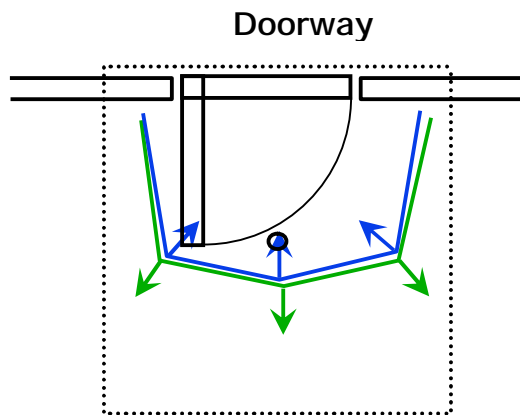

Figure 10.2
- Customise the count line to surround the doorway. This prevents the opening and closing of the door from generating false counts whilst ensuring that people who pass along the wall are also counted. See Figure 10.2.